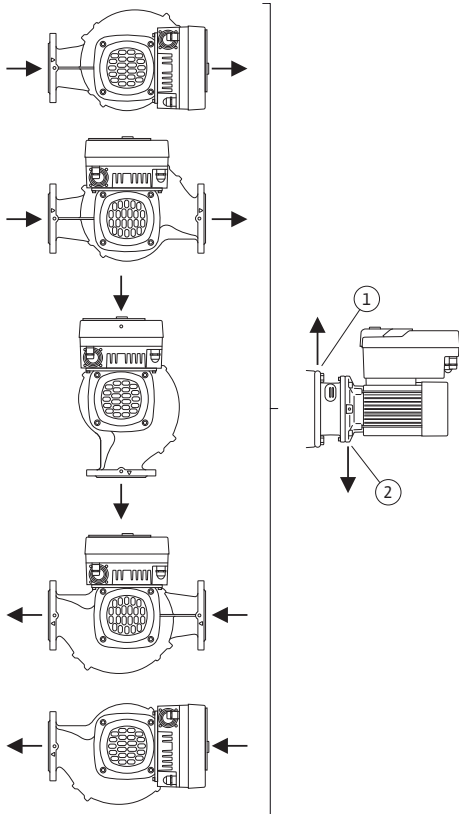

Fig. 21: Permitted installation positions with horizontal shaft
- With a horizontal motor shaft, the condensate hole must be positioned towards the bottom (Fig. 21, Item 2). If necessary, the motor must be turned.